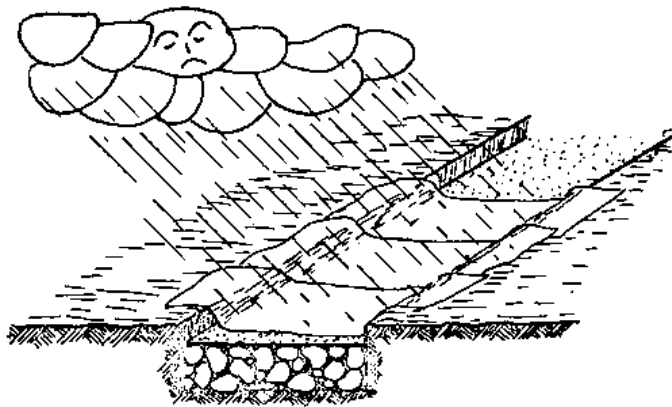

Fig. 2
- The rain, which can wash out the cement paste, leaving the non-bound aggregate behind (Fig. 2).